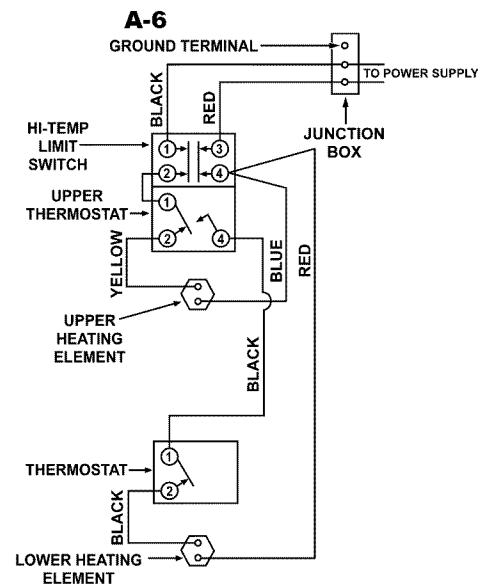

FIGURE 12.
- 5. A wiring diagram (Figure 12) has been provided to show the connections between the water heater and the power supply.